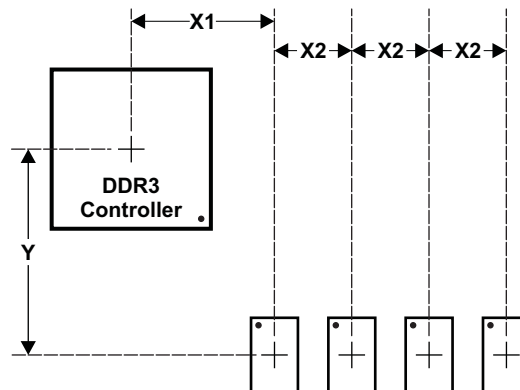

Figure 8-56. Placement Specifications
Figure 8-56 shows the required placement for the processor as well as the DDR3 devices. The dimensions for this figure are defined in Table 8-63. The placement does not restrict the side of the PCB on which the devices are mounted. The ultimate purpose of the placement is to limit the maximum trace lengths and allow for proper routing space. For a 16-bit DDR memory system, the high-word DDR3 device(s) are omitted from the placement.
- (1) For dimension definitions, see Figure 8-56.
(2) Measurements from center of processor to center of DDR3 device.
(3) Minimizing X1 and Y improves timing margins.
(4) w is defined as the signal trace width.
(5) Non-DDR3 signals allowed within DDR3 keepout region provided they are separated from DDR3 routing layers by a ground plane.
(6) Note that DDR3 signals from one DDR3 controller are considered *non-DDR3* to the other controller. In other words, keep the two DDR3 interfaces separated by this specification.